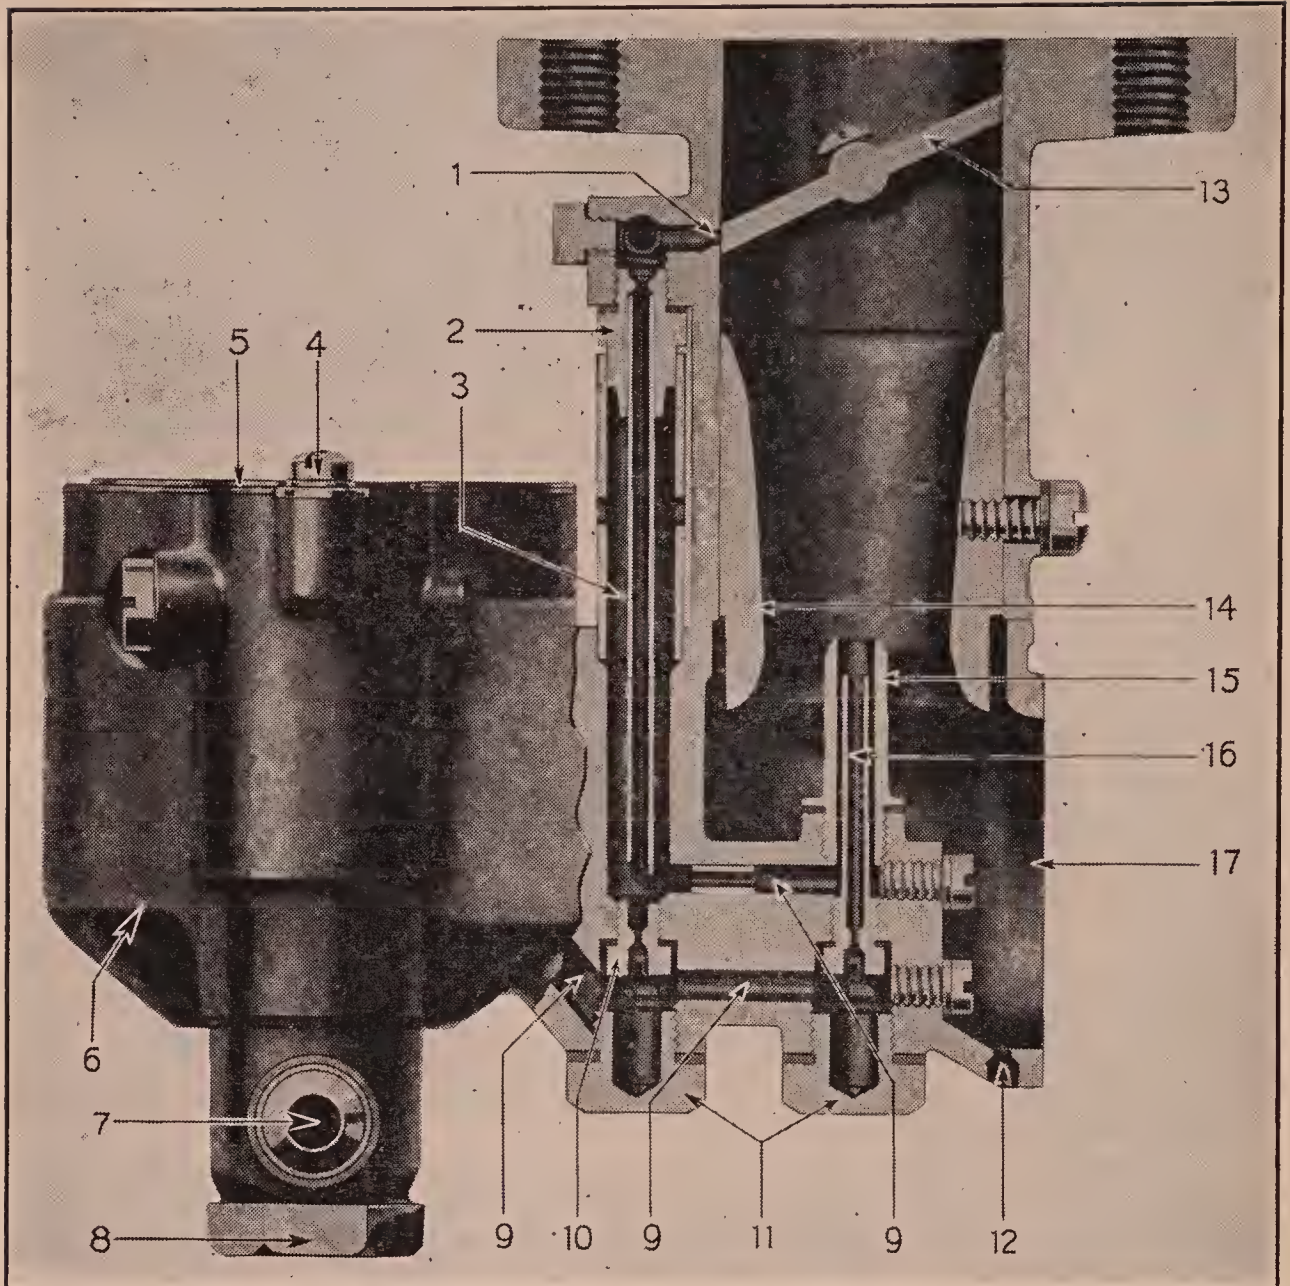

Fig. 40. Sectional Side View of of Carburetor
7. There may be water in the carburetor. Remove it by opening the carburetor drains (8 and 11, fig. 40); **inspect the drain plugs for leaks after replacing them.**